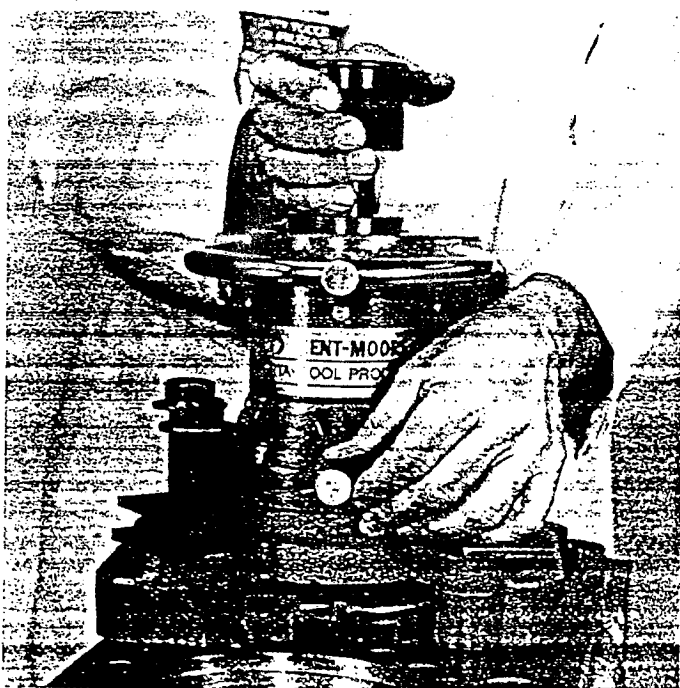

FIGURE 6
5. Retract the cutter plate from the bore and lock it in the full up position. (See Figure 6.)